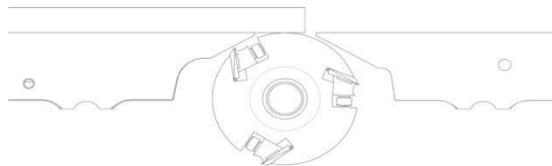

Fig.36:
STEP 1: Place a straight edge on outfeed table over the cutterhead and slightly touching the cutterhead body as shown in **FIG. 36**.